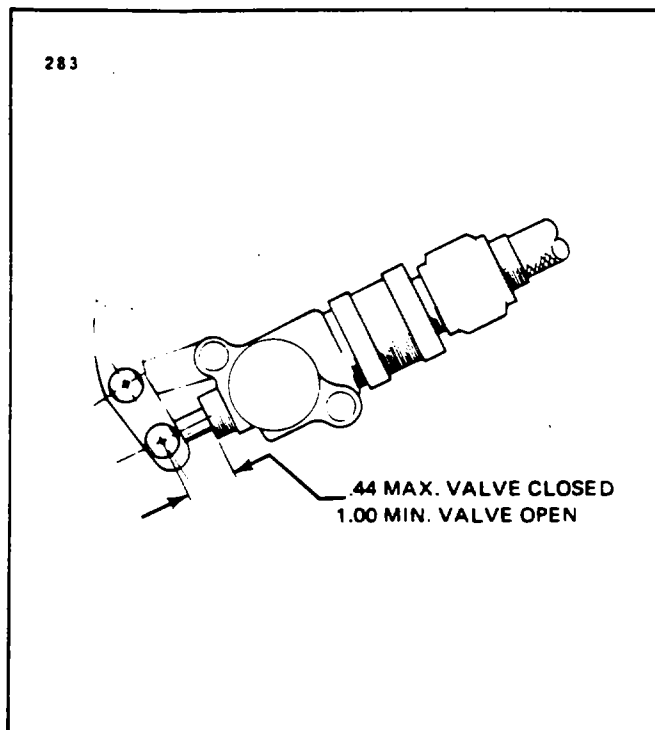

Figure 28-11. Adjustment of Crossfeed Valve
4. Assemble the control cable clevis on the arm of the crossfeed handle. Adjust the clevis end of the control cable to obtain a maximum of seven-sixteenths of an inch between the center of the pin that goes through the valve and valve body. (Refer to Figure 28-11.)